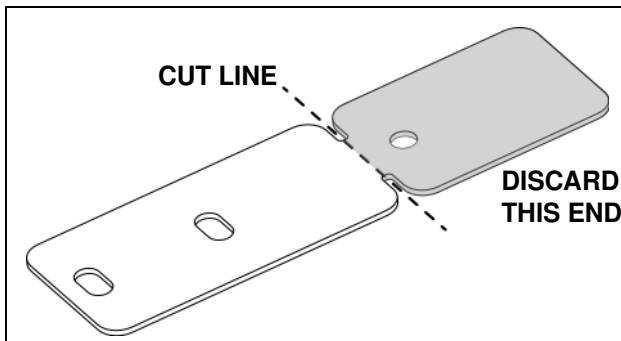

Figure 3
3. Cut Shim Plates (#4) as shown and discard the small end with the single hole. (See Figure 3)